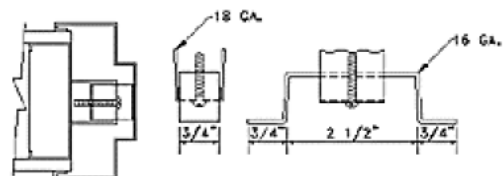

Figure 8
8. Compression Anchor: (Figure 8) An adjustable compression device located near the top of each jamb. This anchor, used on slip-on dry wall frames and in conjunction with slip-on dry wall base anchors, can be fire rated.